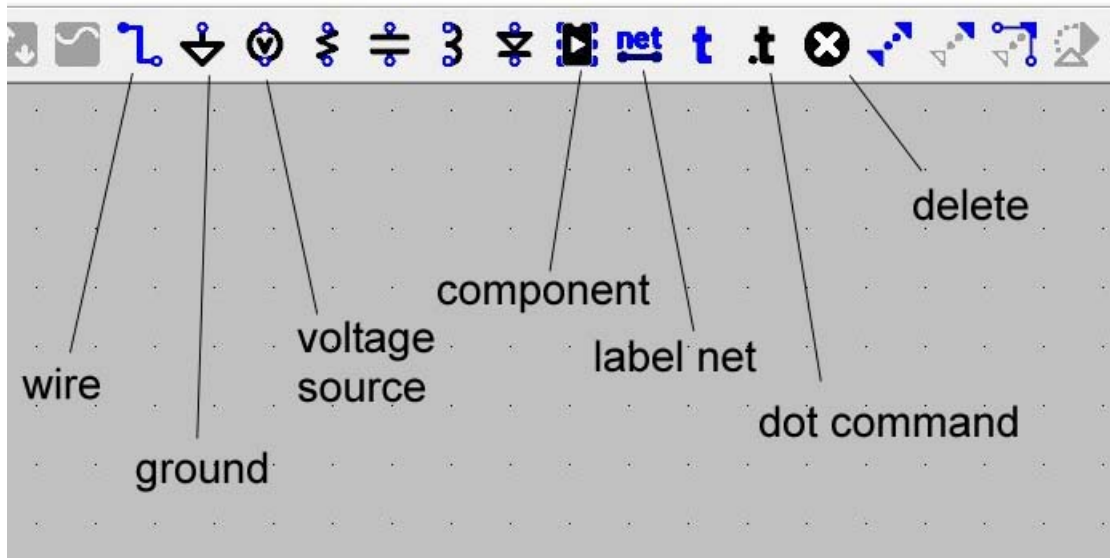

Figure 8: Icons used to create schematic
If you are new to LTspice, or just out of practice, the checklist below will guide you. Figure 8 show the icons that you will be using. Create the schematic now:
1. Click the Component icon (see Figure 8), then select `spice_test` on the list (scroll to the right). Click the Place button, then position the symbol at the center of the screen and click. Hit `<Esc>` or right-click to stop placing additional copies.